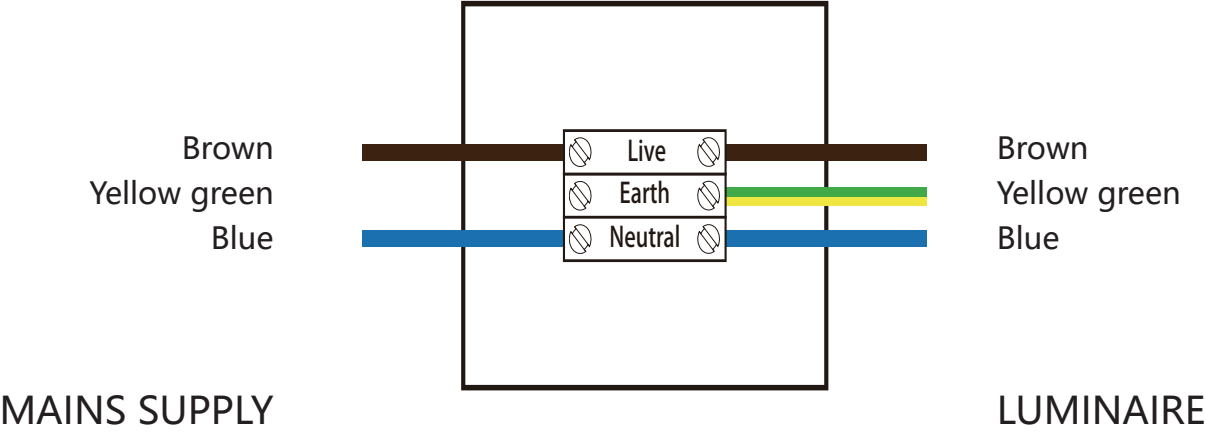

Fig. 4
5. Switch off the power, and then use a terminal block to connect the two-core exposed wires with those reserved on the wall (see details in Fig. 4).